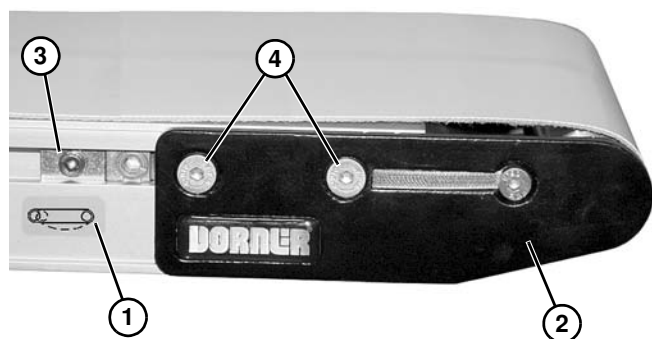

Figure 9
2. On tension end of the conveyor, identified with  a label (Figure 9, item 1), push in head plate assembly (Figure 9, item 2):
- a. On both sides of conveyor, loosen and move cam tracking assemblies (Figure 9, item 3) (if equipped) away from head plates.
- b. Loosen fastening screws (Figure 9, item 4) and push head plate assembly inward.